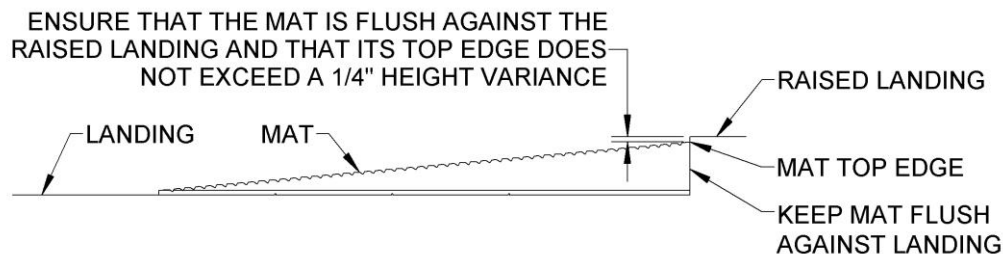

FIG. 1
- 4.2. Ensure that the mat is flush against the raised landing and that its top edge does not exceed a 1/4" height variance (FIG. 1).